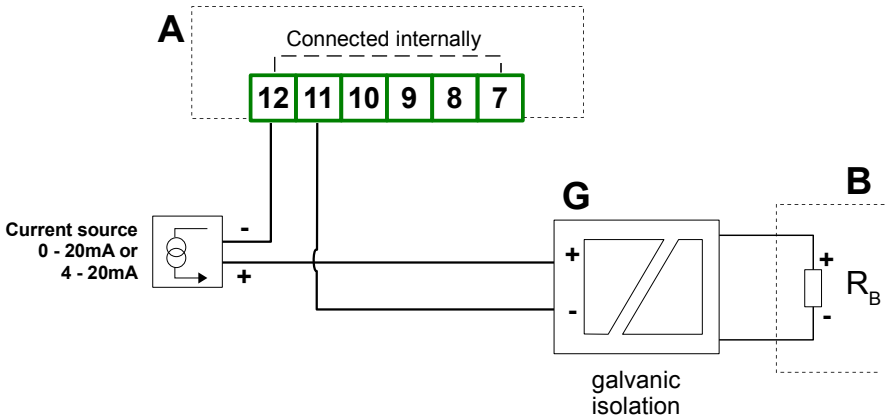

Figure 4.22. Serial connection of active 2-wire sensor with **SRP-N118** unit and other current measurement device (e.g. PLC controller).
**SRP-N118** meter has no galvanic separation between measurement input and RS-485 interface. If serial connection of multiple units is made or serial connection with other device, without galvanic separation of RS-485 interface, is made then RS-485 interface separators must be used certainly (**Figure 4.22, 4.23**). If RS-485 interfaces are isolated or not used then the separators are not necessary.
If device **B** (**Figure 4.22, 4.23**) is equipped with galvanic separated input or if different potentials between **A** and **B** devices signal grounds are allowed (e.g. if RS-485 interface is separated or unused), current loop can be closed without separator **G**.